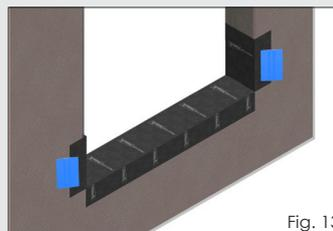

Fig. 13
**Fig. 13:** Make 90° cut on the overhanging DriFlash Tape, create firmly, fold down and with the release liner removed, adhere to the Wraptite using a squeegee or roller.